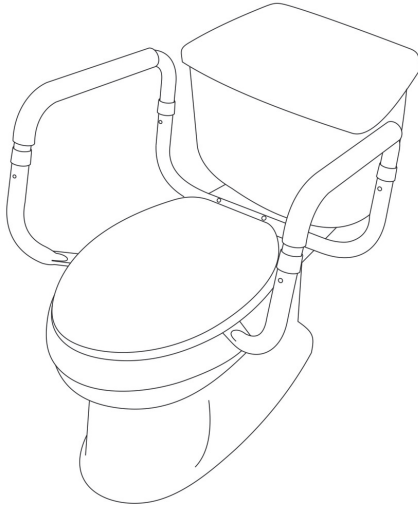

Figure 5
6. Place rubber tips under the toilet seat. The weight of the user will secure frame in place. (Figure 5)